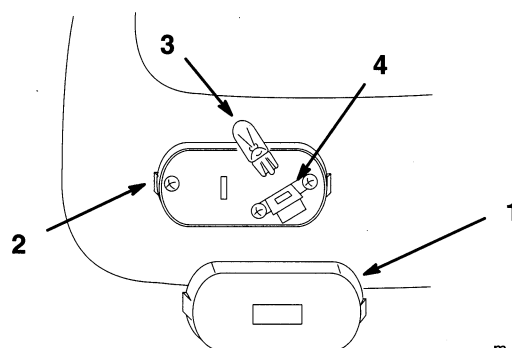

Figure 35
2. Inserting a screwdriver into slot and twist to remove lens (Fig. 35).
1. Align the bulb base with socket and push into position (Fig. 35).
2. Align and snap the lens onto the base (Fig. 35).